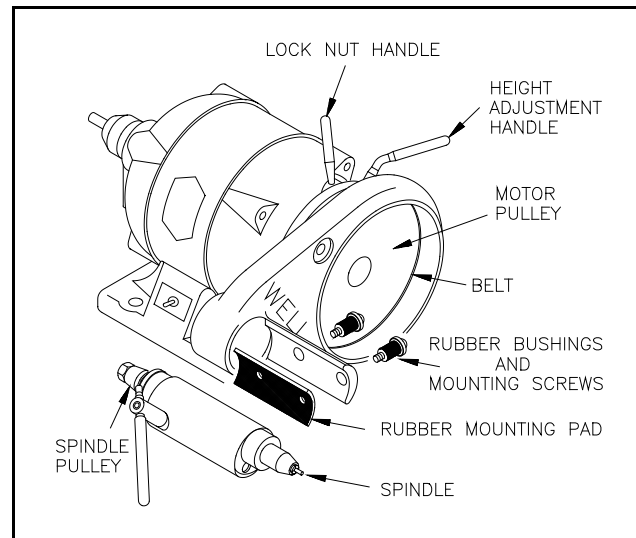

Figure 6.
- 6.6.5 Loosen the height adjustment handle. Rotate the bracket to the position pictured in Figure 6 and tighten the handle.
- 6.7.13 Loosen the height adjustment handle and position the Spindle as illustrated in Figure 6.